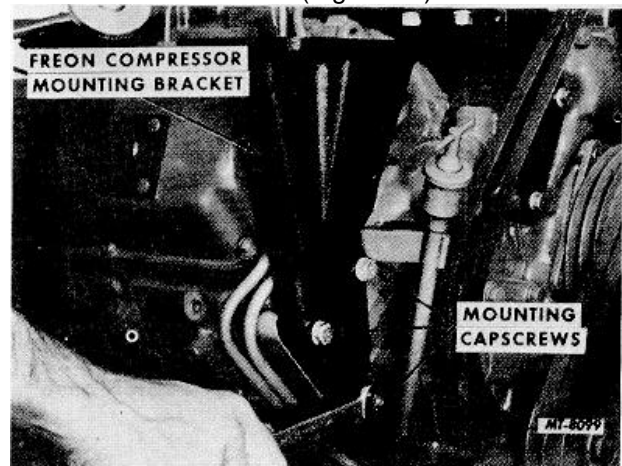

Fig. 20 Removing Freon Compressor Mounting Bracket
5. Remove freon compressor mounting bracket capscrews and lockwashers and remove bracket (Figure 20).